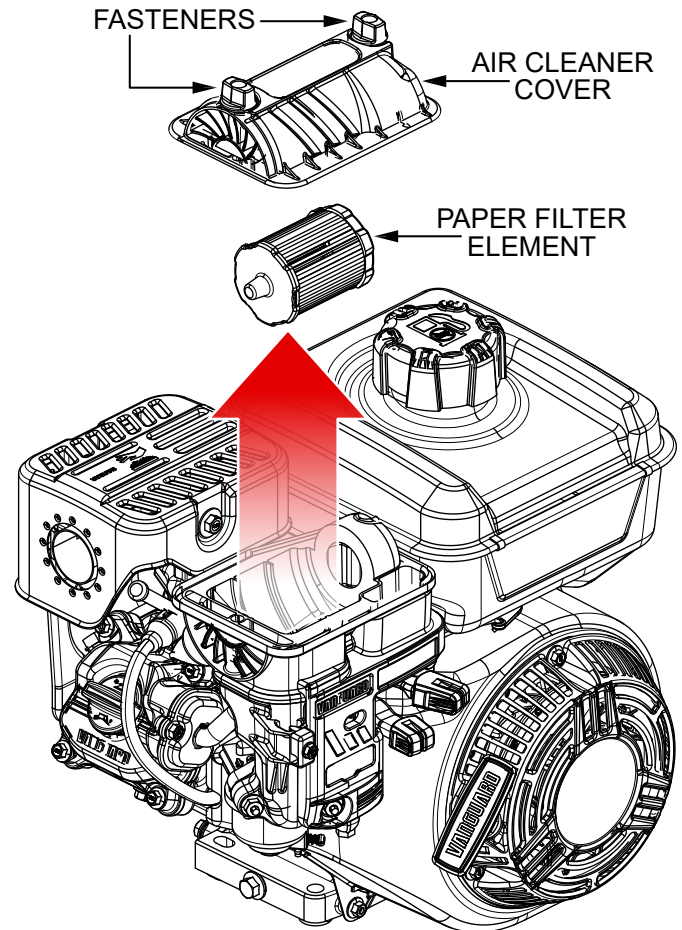

Figure 24. Engine Air Cleaner
1. Remove the air cleaner cover and then remove the paper filter element (Figure 24).